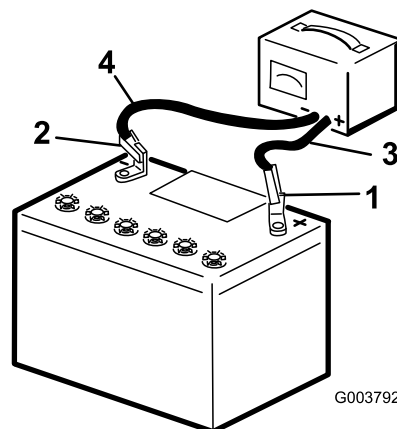

Figure 30
- Charge the battery for 10 to 15 minutes at 25 to 30 amps or 30 minutes at 4 to 6 amps (Figure 30).
- When the battery is fully charged, unplug the charger from the electrical outlet, then disconnect the charger leads from the battery posts (Figure 30).